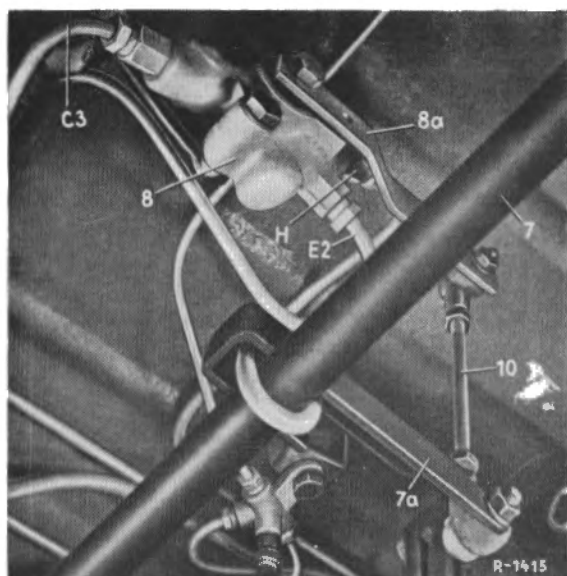

Fig. 32-9/1
4. Detach the connecting rod (10) for the leveling valve (8) from the lever (7a) of the torsion bar (Fig. 32-9/1). Fix the leveling valve in its neutral position by means of a pin (see Fig. 40-5/4).